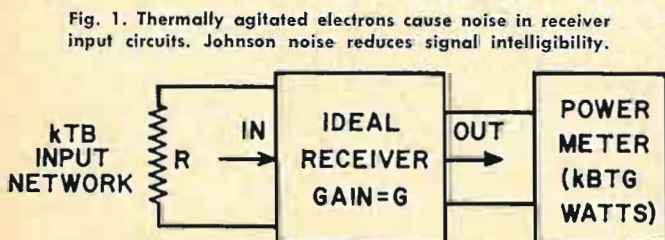

Fig. 1. Thermally agitated electrons cause noise in receiver input circuits. Johnson noise reduces signal intelligibility.
Fig. 1 illustrates the case of the perfect receiver with its input network at a temperature of 290° K (63° F). The resistance (R), which represents the impedance of the feed, generates a noise voltage called Johnson noise. This noise results from the random motion of thermally agitated free electrons. Although this noise voltage has an infinitely wide bandwidth, we are only interested in the signals which fall within the receiver's bandwidth because only these noise voltage signals pass through the amplifier and register on the power meter. It is only this noise with which the incoming signals have to compete.
A power meter hooked to the output of a perfect receiver as shown in Fig. 1 would read a power N_1 equal to $kBTG$, where G is the power gain of the receiver. However, a receiver contributes noise of its own (ΔN) so that an actual receiver's output (N_2) is $kBTG + \Delta N$. Specifically, the term noise figure (F) is a ratio that compares a receiver with its ideal counterpart and is equal to the noise power output from an actual receiver with its input network at 290° K, divided by the noise power output from an ideal receiver with its input network at 290° K. Or,